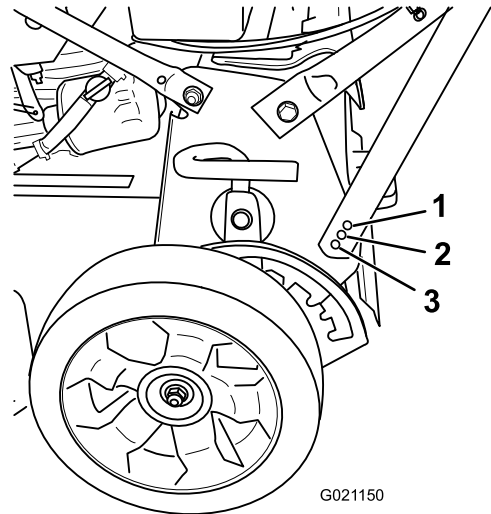

Figure 6
2. Remove the handle bolt and insert it in 1 of the 3 holes located at the bottom of the handle bracket (Figure 6).